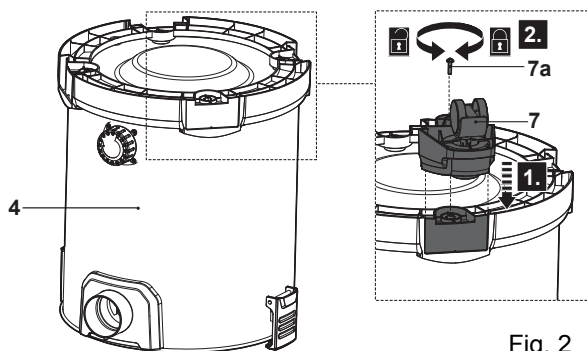

Fig. 2
- > Place the tank (4) upside down on a flat, stable surface.
- > Align and slide the castors (7) onto the supports. Secure the connection with the screws (7a), using a suitable crosshead screwdriver (Fig. 2).